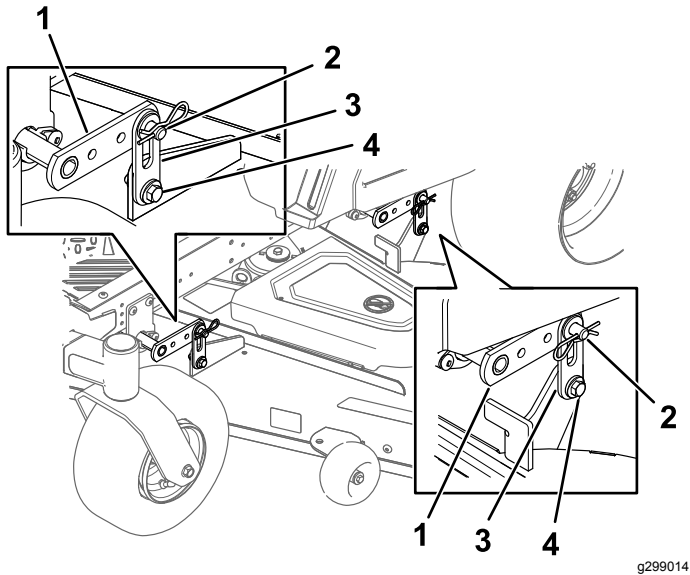

Figure 60
- Loosen the adjustment bolts on all 4 corners so that the deck is sitting securely on all 4 blocks (Figure 60).
- Ensure that the deck pins are at the top of the slot in the deck hangers (Figure 60).
- Tighten the 4 adjustment bolts (Figure 60).